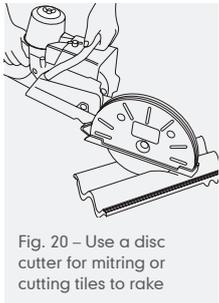

Fig. 20 – Use a disc cutter for mitring or cutting tiles to rake
- 2 Tiles cut to rake or mitre in open details, e.g. valleys, external angles, should be trimmed with a disc cutter (Fig. 20) to ensure a neat finish.